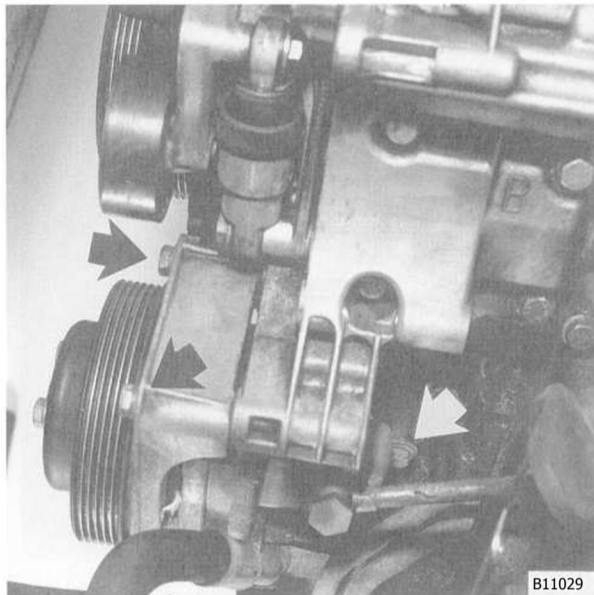

Fig. 23. Power steering pump mounting bolts (arrows).
26. Remove the power steering pump from its mounting bracket. See Fig. 23. Use stiff wire to hang the pump from the body.